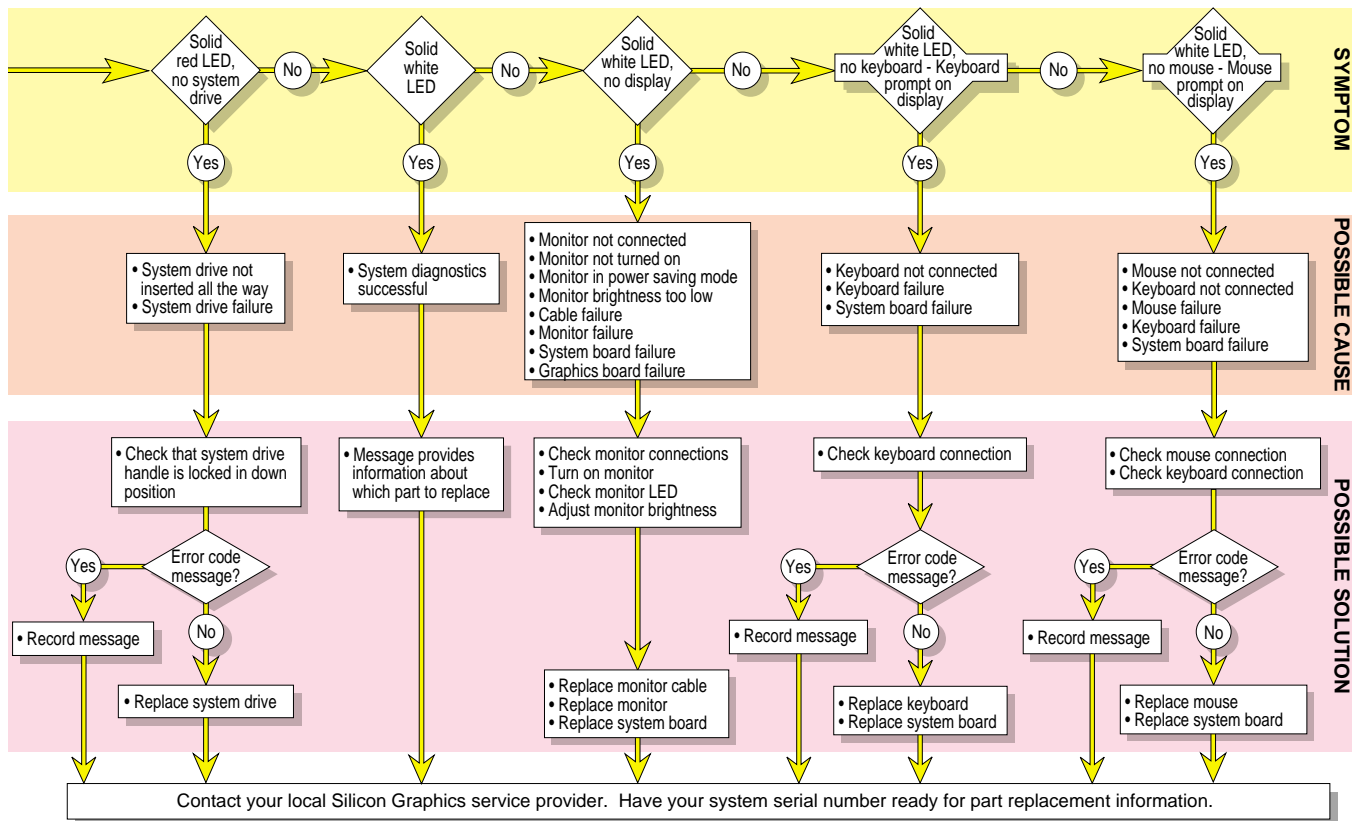

Figure 8-3 Lightbar LEDs - Front of Octane, Diagnostic Chart #3
- Lightbar LEDs - Front of Octane, Diagnostic Chart, Figure 8-3